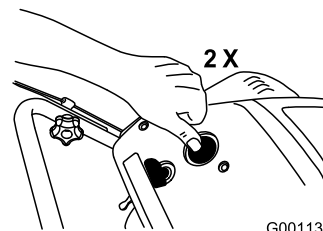

Figure 13
- Firmly push in the primer 2 times with your thumb, holding the primer in for a second before releasing it each time (Figure 13).